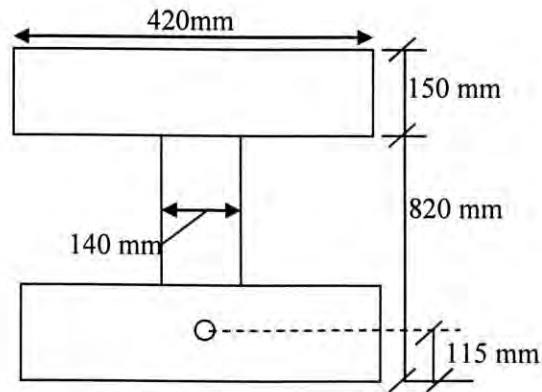

Figure: 3
3. (a) A symmetric I-section is prestressed with 1850 mm^2 steel with an effective stress 1200 MPa . The c.g.s of strands which supply the prestress is 115 mm above the bottom of the beam as shown in Figure: 3. Find the ultimate moment capacity of the section for design. (8)